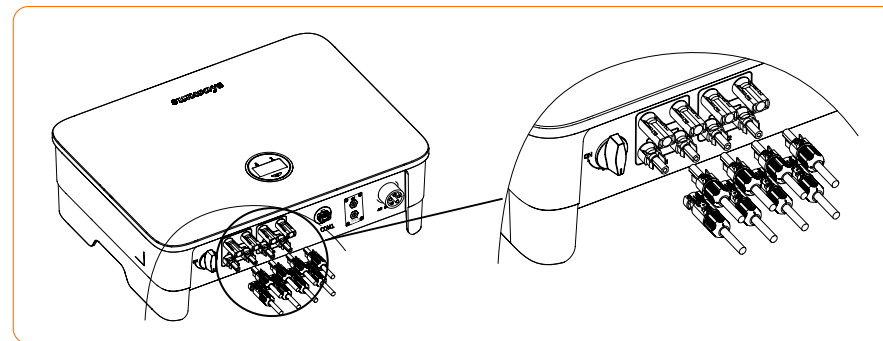

Figure 4-14
① Before assembling the DC connector, make sure that the cable polarity is correct.
② Use a multimeter to measure the voltage of the DC input string, verify the polarity of the DC input cable, and ensure that each string voltage is within 1000V.
3. Insert the positive and negative connectors into the inverter DC input terminals respectively, a click sound should be heard if the terminals are well connected, as shown in Figure 4-14: